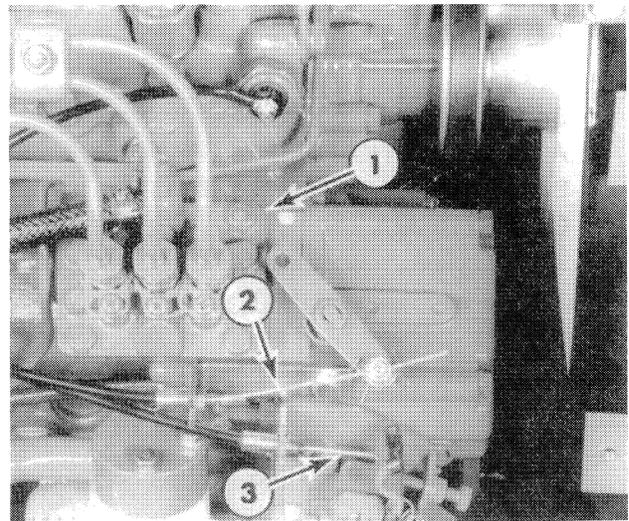
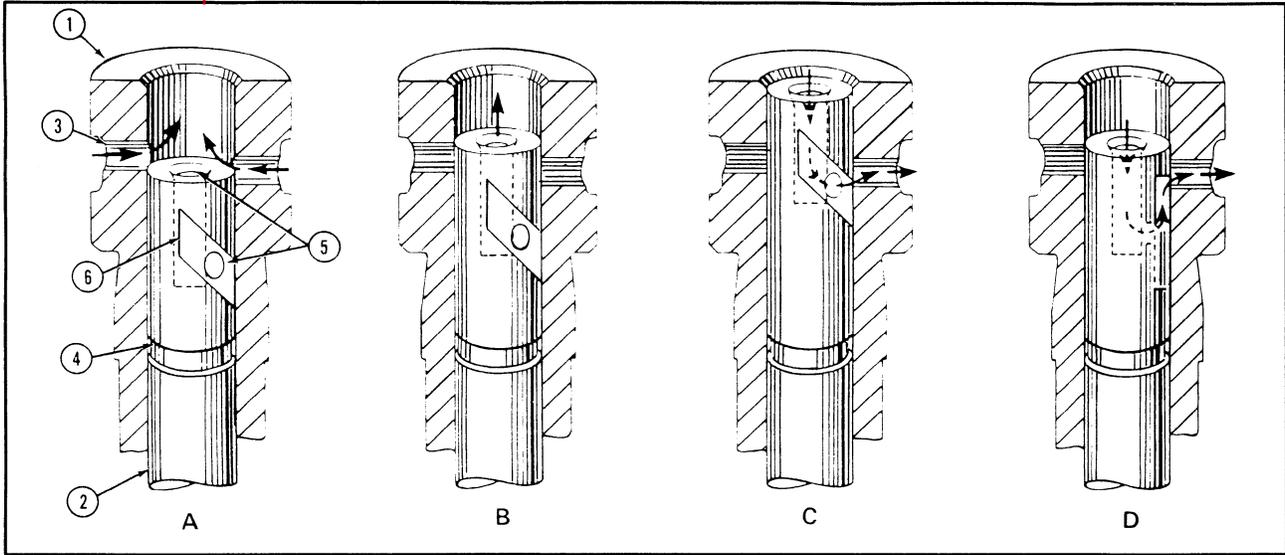

Figure 1
Figure 3
The fuel injection pump is a constant stroke, in-line pump, Figures 1 and 2. It operates at one-half engine speed and contains one pumping element for each cylinder. The pump elements accurately meter and deliver the fuel to the injectors, Figure 3.
Each of the pumping elements consists of a barrel and plunger lapped together to give an accurate fit. Two diametrically opposed drillings in the barrel form fuel inlets, and the barrel is splined (with a master spline) for correct location within the pump body, Figure 3.
The plunger has a fuel port which terminates in a helical groove (6), that is machined in the periphery of the plunger (2), Figure 3.
The elements operate as follows (Figure 3):